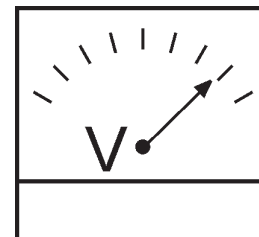

Figure 47. Frequency Meter
12. The generator's AC-voltmeter (Figure 47) will display the generator's output in **VOLTS**.